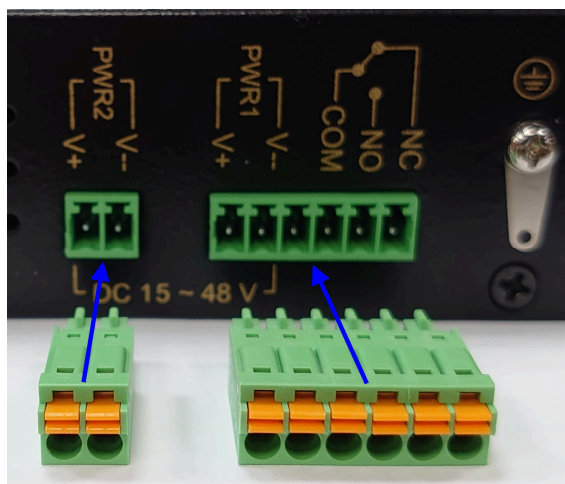

Figure 2.5.1
- ◆ Take out the “2pin / 6pin terminal block” from inside the accessory kit and install to the NV-520G properly. (Figure 2.5.1)